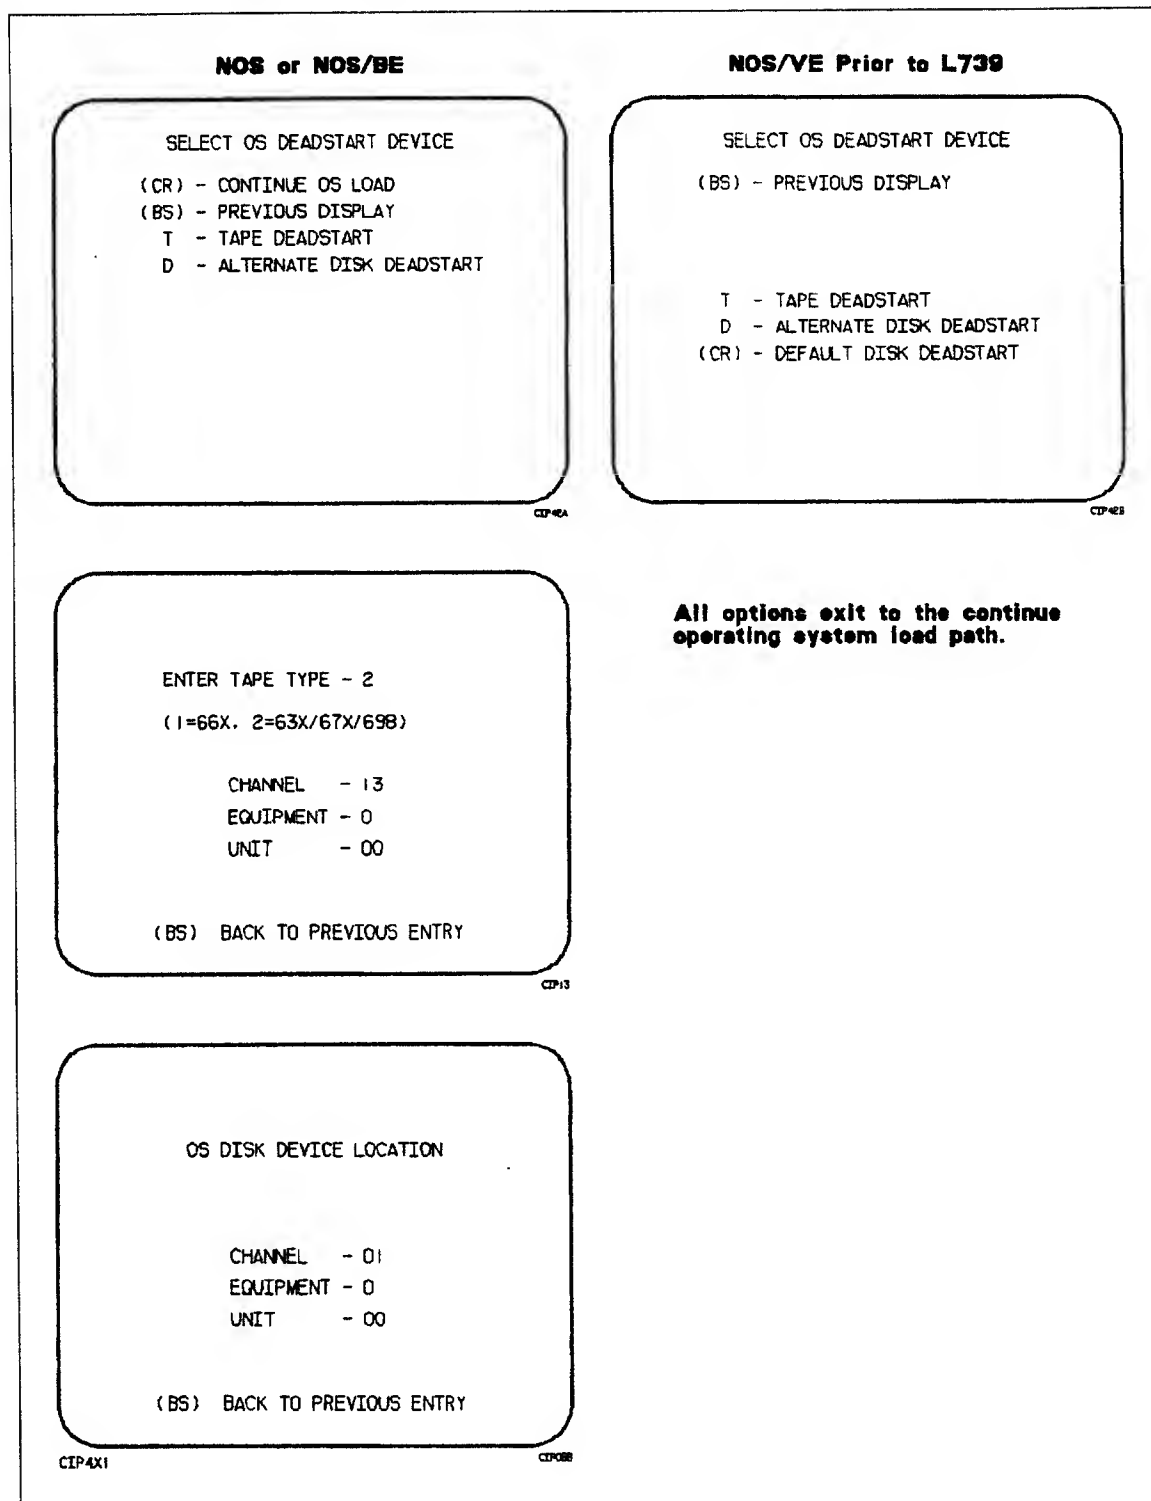

Figure 2-9. Deadstart Device
Select this option from the OPERATOR INTERVENTION display to specify an alternate disk or a tape device as the OS load device. From the SELECT OS DEVICE display (refer to figure 2-9), press (CR) to cause system deadstart processing to continue with no further intervention on your part. You cannot select additional options after this entry; therefore, the CIP device is the OS device.
Press **Backspace** to return to the OPERATOR INTERVENTION display. Table 2-4 describes the allowable entries for the SELECT OS DEADSTART DEVICE display(s) shown in figure 2-9.